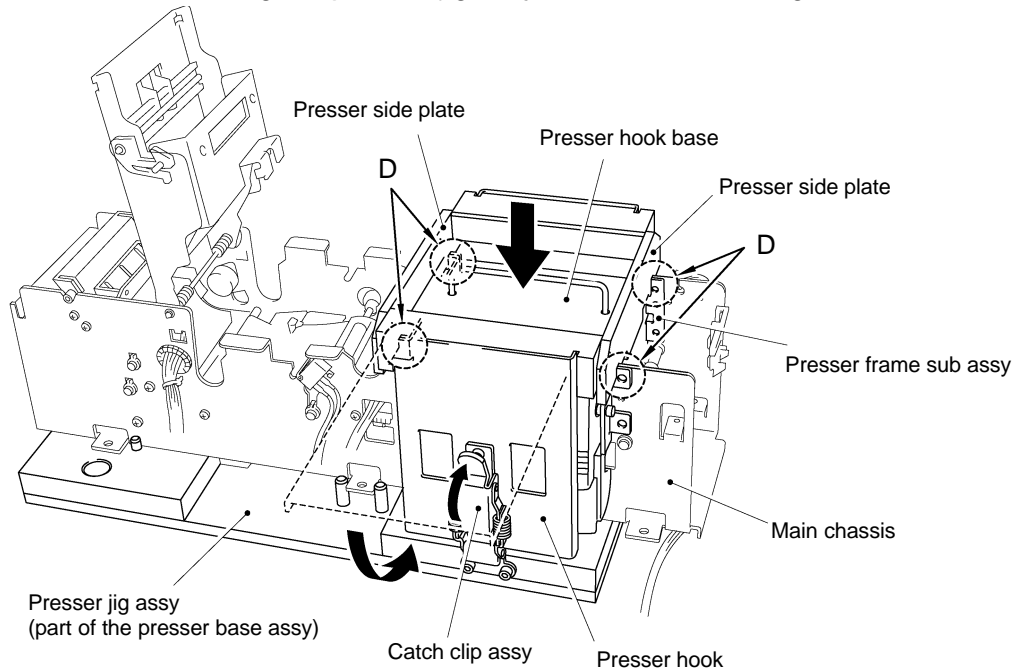
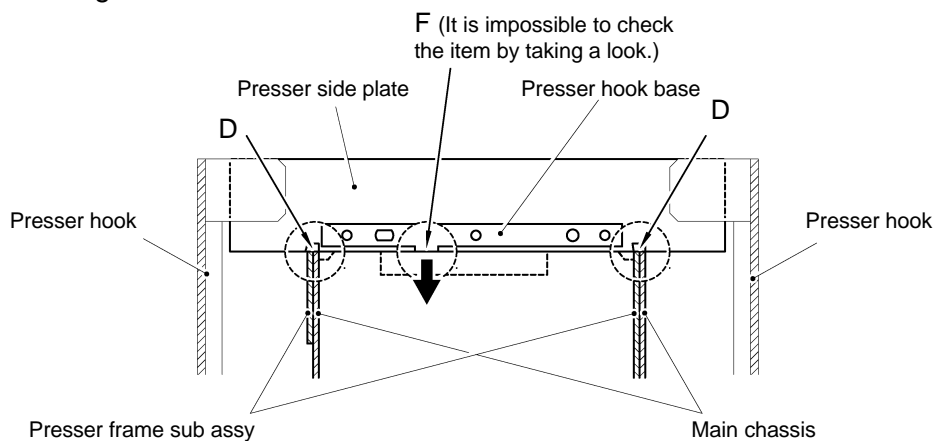
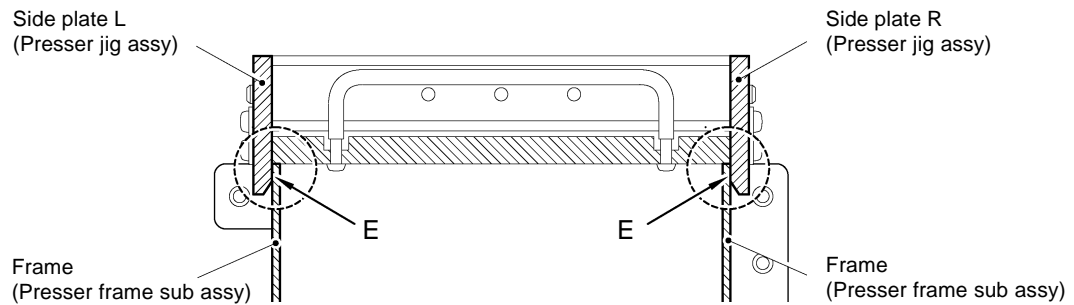

Fig. 3.73A
Fig. 3.73B
Fig. 3.73C
- (6) Place the presser jig assy on the presser frame sub assy, as shown in Fig. 3.73A.
- * Check that the presser frame sub assy and main chassis fit in four dented portions (D) on the presser side plates R/L of the presser jig assy, as shown in Fig. 3.73A and Fig. 3.73B.
- * Check that the frame of the presser frame sub assy supports the side plates R/L of the presser jig assy from inside (E).
Also check that the protrusion (F) of the presser jig assy presses the frame of the presser frame sub assy downward by checking that D and E are properly set, as shown in Fig. 3.73A to Fig. 3.73C.
- (7) Secure the presser jig assy using two catch clip assys, as shown in Fig. 3.73A.